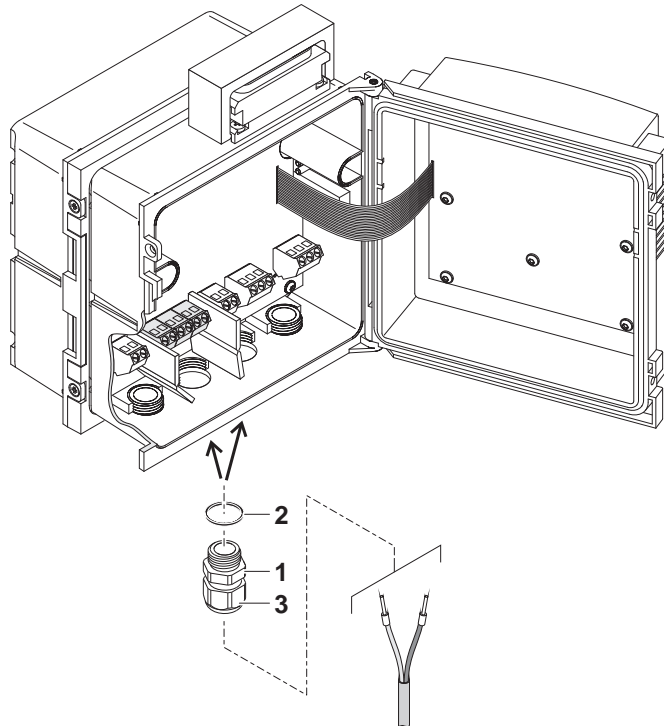

Fig. 3-31 Feeding in the lines (example: front terminal strip)
| 12 | Screw a cable gland (pos. 1 in Fig. 3-31) with the sealing ring (pos. 2) into the enclosure below the respective connections.               |